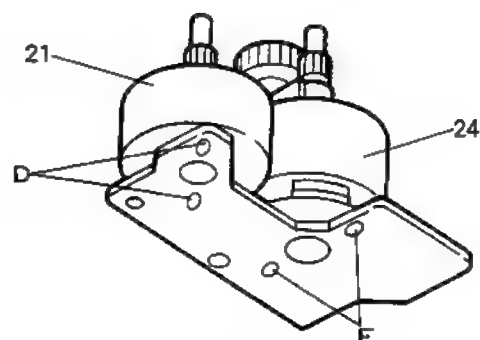

Fig. 7-28
2. When removing the reel motor, unsolder the two points (D) on the back side. (Fig. 7-28)
3. When removing the actuator motor, unsolder the two points (E) in the same manner. (Fig. 7-28)